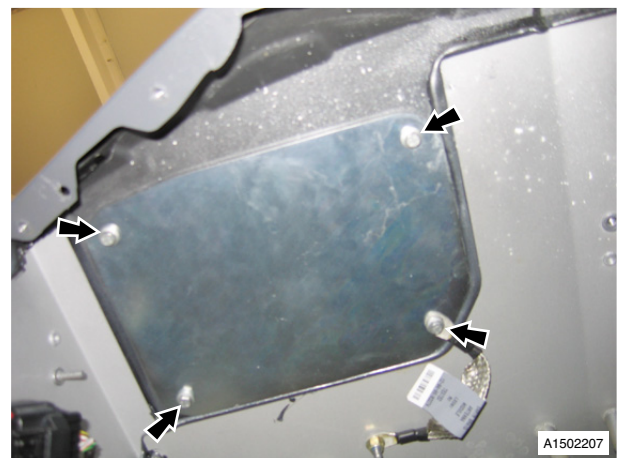

Fig. 2
6. Remove bolts (x4) securing tuner base plate to wheel arch (note position of earth lead) (see Fig. 2).